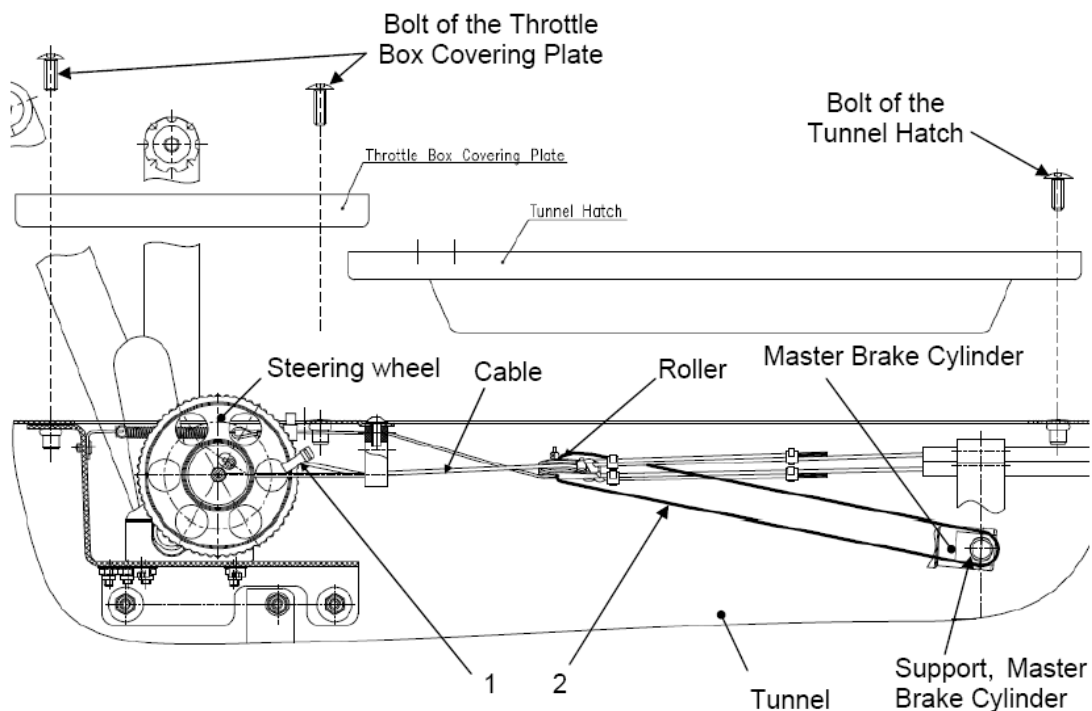

Fig. 4-5
- b. Screw out the bolts of the Throttle Box covering plate, Fig. 4-5;
- d. Screw out the bolts of the Tunnel Hatch, Fig. 4-5;
3. To prevent cable disentanglement on Steering wheel and roller during removing Stabilator and Stabilator mounting pivot is necessary to fix cable in two places (on Steering wheel and roller) by plastic clamps (1) and (2) as shown on Fig. 4-5. Plastic clamp (2) consists of some clamps (2-4 pcs.) connected together to provide needed length.
5. Tighten cable on Steering Wheel and Roller by plastic clamp (2), Fig. 4-5.
9. Remove the plastic clamps (1) and (2) to unfix the Trim Tab control cables on Steering wheel and Roller, Fig. 4-5.